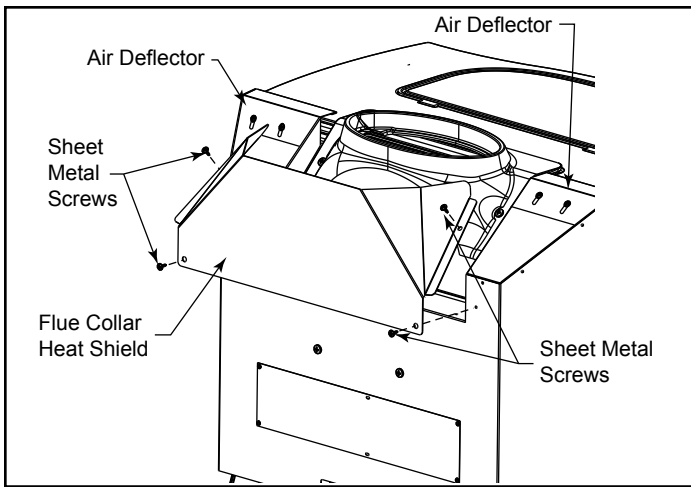

Fig. 23 - Install flue collar heat shield.
If you have the optional fan kit, you may decide to adjust the air deflector to blow heat across the top of your stove. (Fig. 23) Loosen the two (2) screws on each side and raise or lower the deflector. After adjustment, tighten the screws.
The flue collar heat shield must be attached to the Defiant® stove. Use four #10 sheet metal screws supplied to secure the flue collar heat shield to the rear of the stove. (Fig. 23)